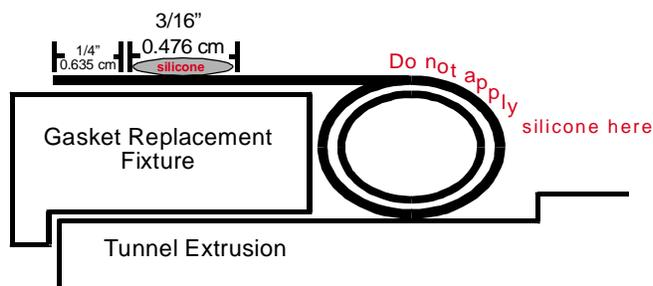

Figure 80: Cut-away View of Side of Gasket and Gasket Replacement Fixture
- When it is determined that the gasket is properly placed, apply high-temperature silicone to the gasket surface. Beginning at about 0.63 cm (0.25 in.) from the inside edge — not over the rounded part of the gasket — evenly coat an area 0.48 cm (0.1875 in.). Refer to Figure 80. Ensure that excess silicone is not applied, especially near the edges where it might compromise the seal. It is essential to work evenly and quickly, because the silicone sets in about 15 minutes.